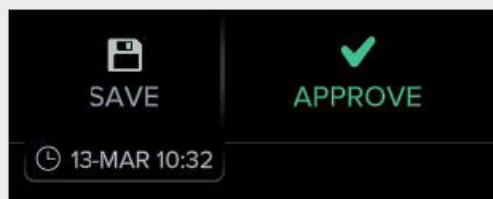

Figure 74. Save and approve buttons
Save Button (Figure 74)
- Click on the “Save” button in the upper right corner to save changes to the type, location, and orientation of implants without approving the plan(s). Once the plan has been saved, it will be time-stamped as shown in Figure 74.
Approve Button (Figure 74)